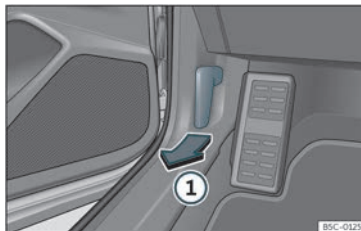

Fig. 201 Release lever in the driver's footwell area.
- Open the door and pull the lever under the dashboard» **Fig. 201** ①.